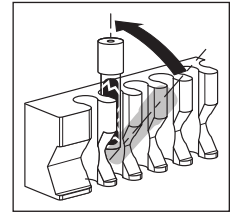

Figure 2
4. Push the indicator straight back (See Figure 2). This crushes the ampoule and activates the indicator.